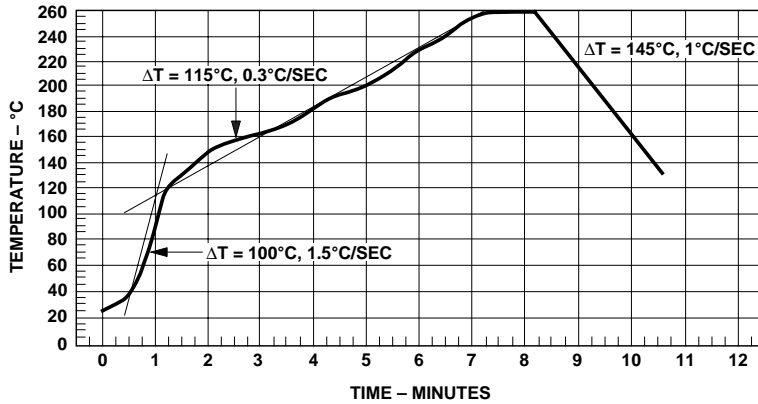

Figure 16. Maximum Solder Reflow Thermal Profile.
**Solder Reflow Process:** Only one soldering operation is recommended within the thermal profile shown in Figure 16. With infrared lamp heating, use precautions to avoid localized temperature rise in the resin. Also, the resin should not be immersed in the